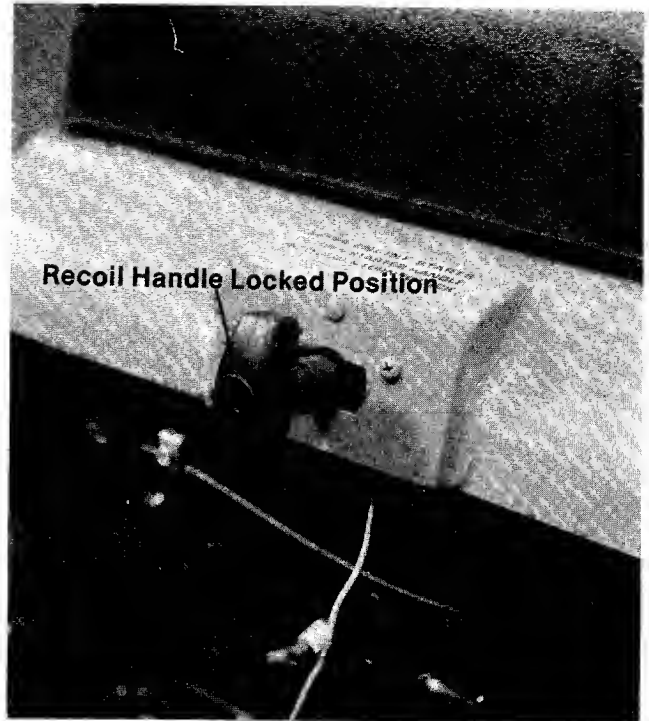

FIGURE 10. RECOIL HANDLE
6. Turn the ignition key to the "ON" position. Twist the recoil starter handle until it is free and pull it with a quick steady motion. After the engine starts, return the recoil starter handle. Twist it until it locks. See figures 10 and 11.